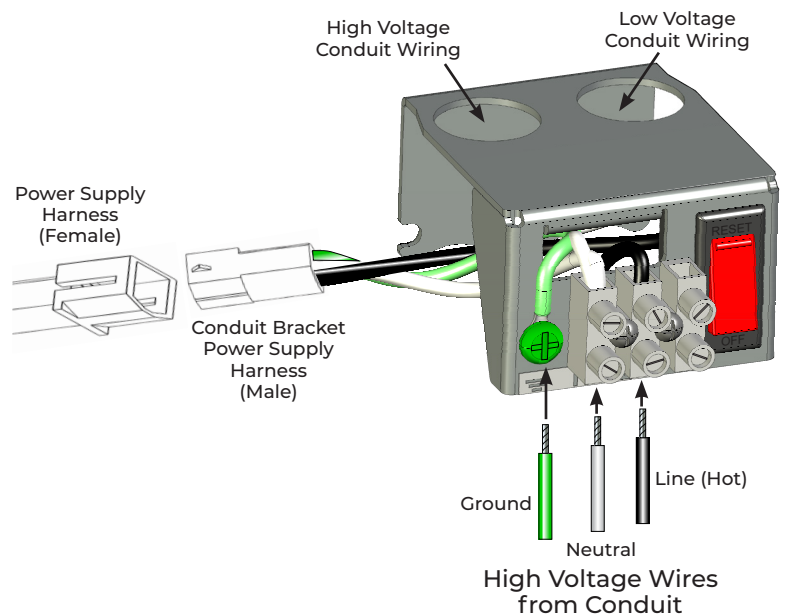

Fig. 4
5. Place wires from conduit into the following terminals: (Fig. 4)